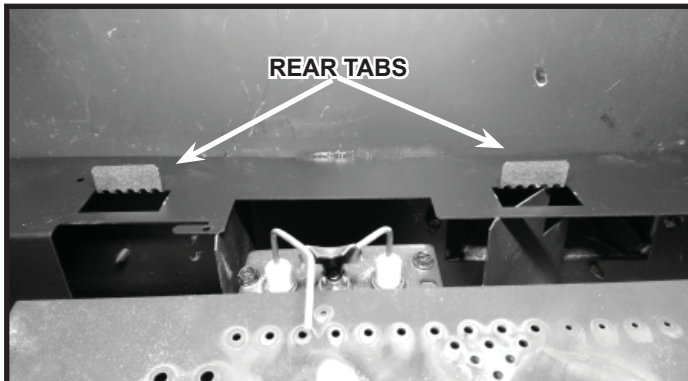

Figure 3. Rear Tabs
**CAUTION: Logs are fragile, handle with care. Log #1 (SRV2219-701)** Before placing Log #1, fold up the rear tabs in the firebox basepan. A flathead screwdriver or pliers may be necessary. See Figure 3. Position Log #1 as shown in Figure 5. Place the slots on the bottom of the log over the basepan tabs. See Figure 4 for slot detail.